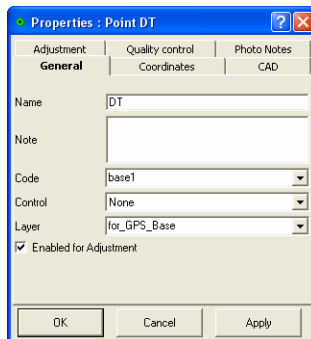

Figure 5-96. General Properties
- View or edit *General* tab fields (Figure 5-96):